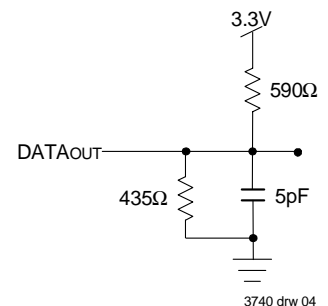

Figure 2. Output Test Load (for t_{LZ}, t_{HZ}, t_{wZ}, t_{ow})
1. Transition is measured 0mV from Low or High-impedance voltage with Output Test Load (Figure 2).